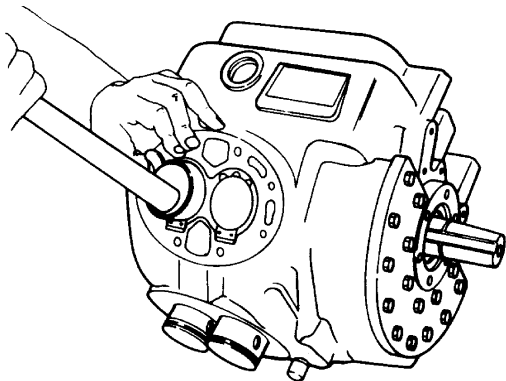

Figure 3-18. Installing Pistons
1. Do not tap piston with hammer if rings are caught at entrance to the cylinder. Using a ring compressor, squeeze rings sufficiently to allow piston to be pushed down into the cylinder. Ensure that ring ends are staggered so that the gaps are not aligned, and lightly tap piston down into the cylinder. (See Figure 3-18) The ring compressor can be easily fabricated from a piece of sheet metal.